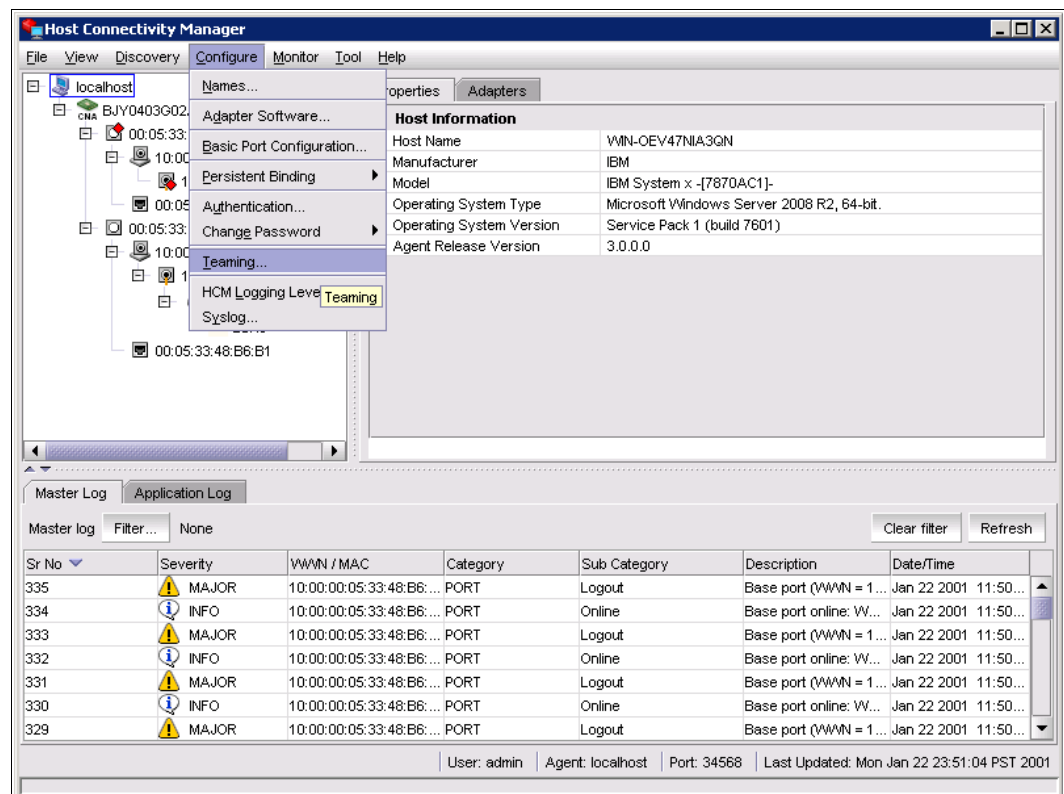

Figure 7-107 Host Connectivity Manager window
2. In the Host Connectivity Manager window (Figure 7-107), make sure that **localhost** is highlighted, and then select **Configure** → **Teaming**.